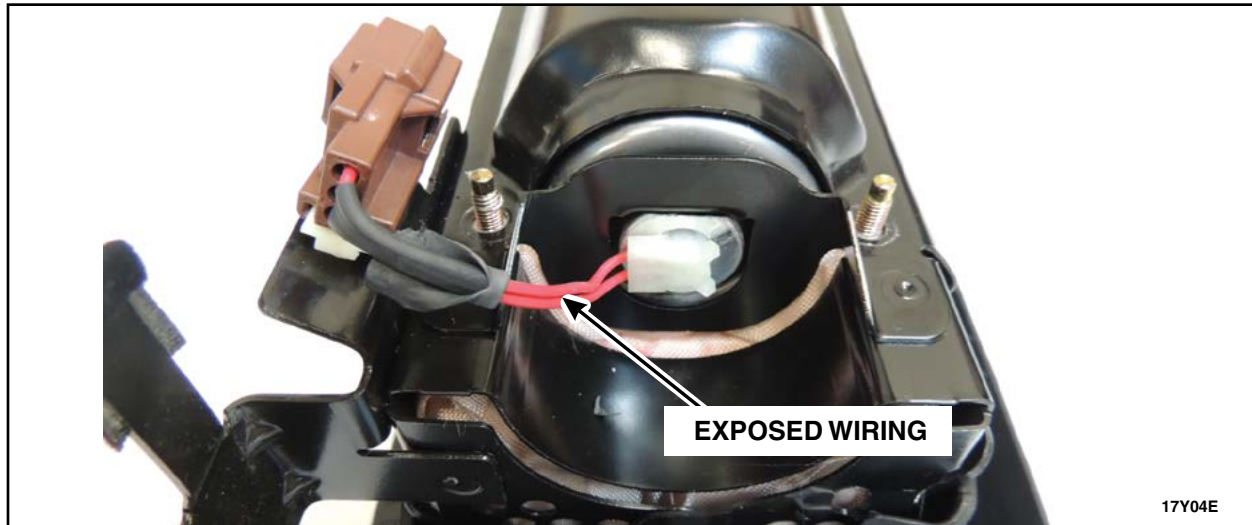

FIGURE 7
1. Cut and peel back wiring sleeve to expose inflator wiring. See Figure 7.